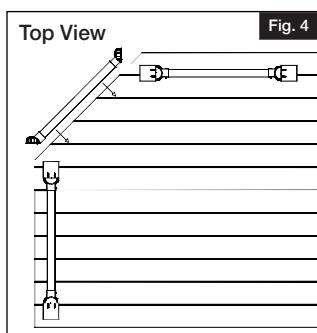

Fig. 4
- a. Position the rail section between the posts (Fig. 4).